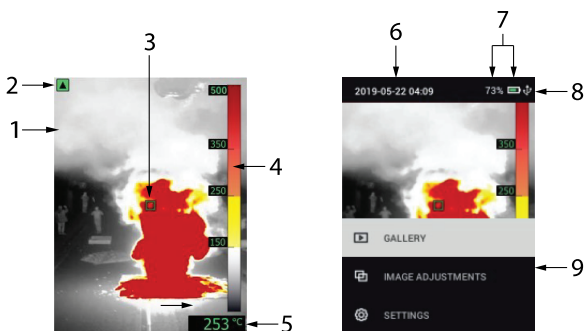

Figure 4.2 K1 Display Description
4. Temperature Scale: Set the sensitivity (gain) to LOW, HIGH, or AUTO. With the sensitivity set to LOW, the temperature range is $-10 \sim 400^{\circ}\text{C}$ ($14 \sim 752^{\circ}\text{F}$) and the low sensitivity range indicator appears (upper left of display), see **Figure 4.2**, *Display Description*. With the sensitivity set to HIGH the temperature range is $-10 \sim 140^{\circ}\text{C}$ ($14 \sim 284^{\circ}\text{F}$) and the low sensitivity range indicator switches OFF. Set to AUTO to have the camera decide which range is most suitable for any given image.